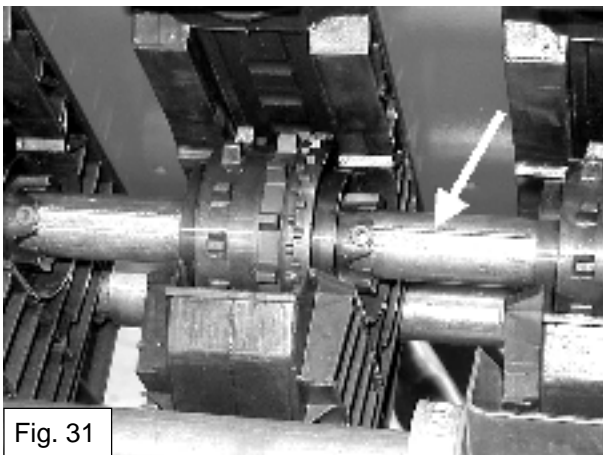

Fig. 31
- Turn the seed shaft with the crank so that the keyway is visible (fig. 31).